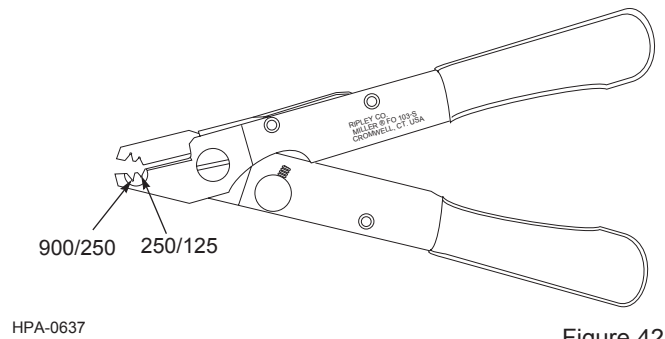

Figure 42
**Step 7:** Remove the fiber coating length per your connector's instructions with a dual hole fiber stripper (Figure 42). Full instructions for the tool are provided in SRP-005-057).